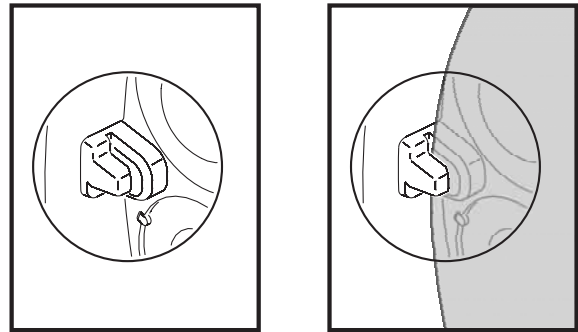

Figure 5: Diffuser filter locating tabs
3. Place the diffuser filter over the lens plate so that the cutouts in the diffuser locate over the tabs around the edge of the lens plate (see Figure 5).